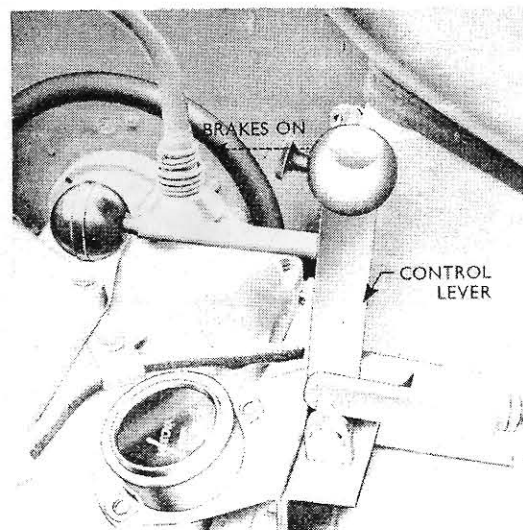

Fig. 3
2. Locate the lever and gauge assembly in position and secure with two $\frac{7}{8}$ in. \times $2\frac{1}{8}$ in. bolts, nuts and spring washers (see Fig. 3).
The Reaction Valve (Fig. 3)